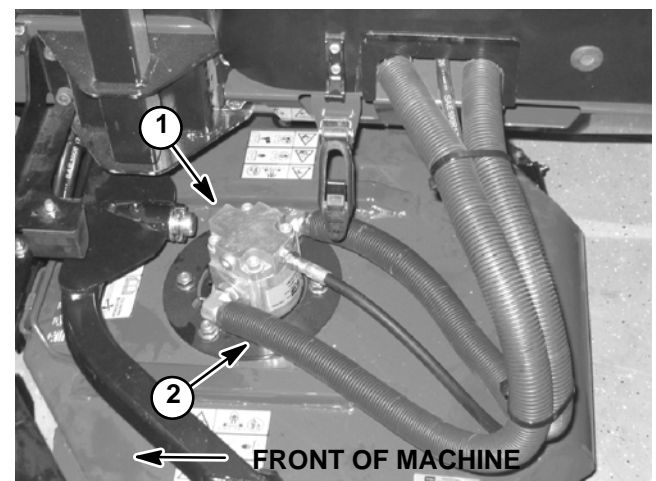

Figure 46
5. Thoroughly clean junction of hydraulic inlet hose and deck motor fitting on left side cutting deck for the relief valve to be tested. Disconnect hose from deck motor fitting (Fig. 46):